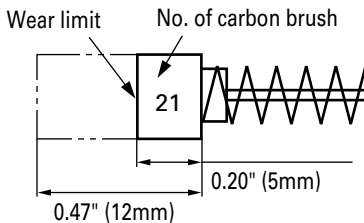

Fig. 19
4. Inspecting the carbon brushes (Fig. 19)
Use HITACHI carbon brush No. 21 indicated in Fig. 19.